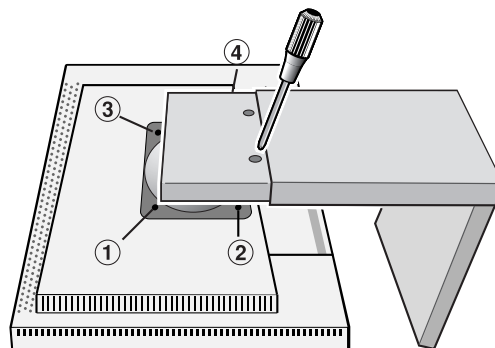

Figure S.2
4. Remove the 4 screws connecting the monitor to the stand and lift off the stand assembly (Figure S.2). The monitor is now ready for mounting in an alternate manner.